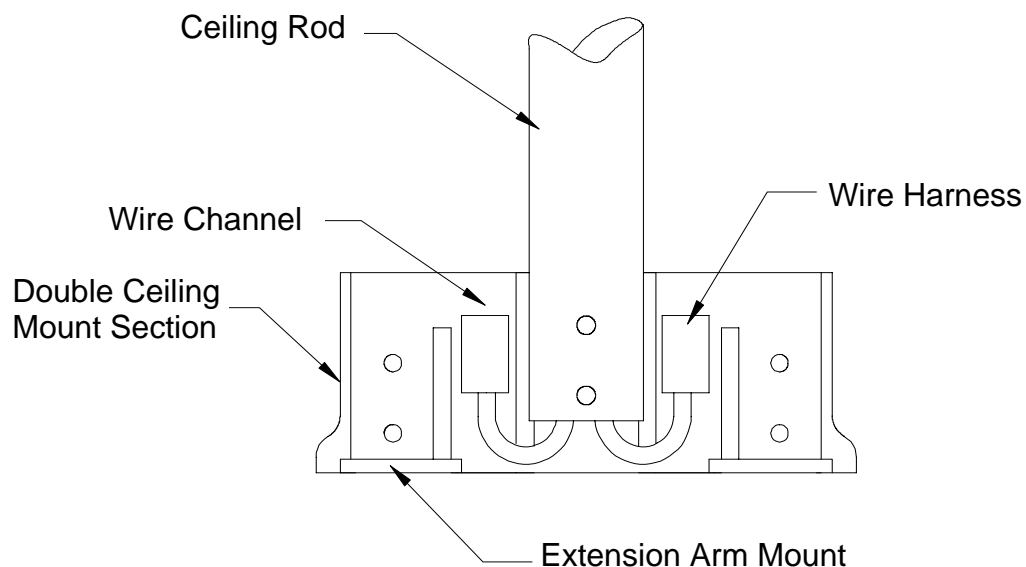

FIGURE 8: Wire Channel
- Bring one section of the double ceiling mount casting to the ceiling rod and fasten it to the rod with the 2" long bolts (P/N 0001311) and cap nuts (P/N 0001312). Tighten the cap nuts just enough to hold the section in place; they do not need to be fully tightened at this time. Bring an arm assembly to the double mount section and fasten the transformer housing into the extension arm mounting cavity with two  $\frac{3}{8}$ " long mounting screws (P/N 0001291). Install the other arm assembly to the section with two more  $\frac{3}{8}$ " long screws. Route the wire and Molex connector from the ceiling rod into the wire channel as shown in figure 8. Plug the connector at the end of each transformer housing to the mating Molex connector from the wire harness. Place each set of wires within the channel area.